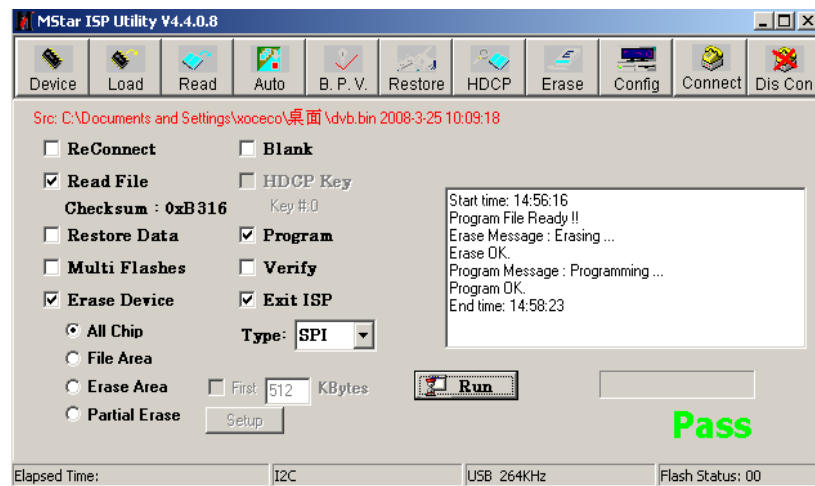

Fig5
- (6) If the process of writing succeeds, it will display “Pass” near “Run” as shown in fig5.